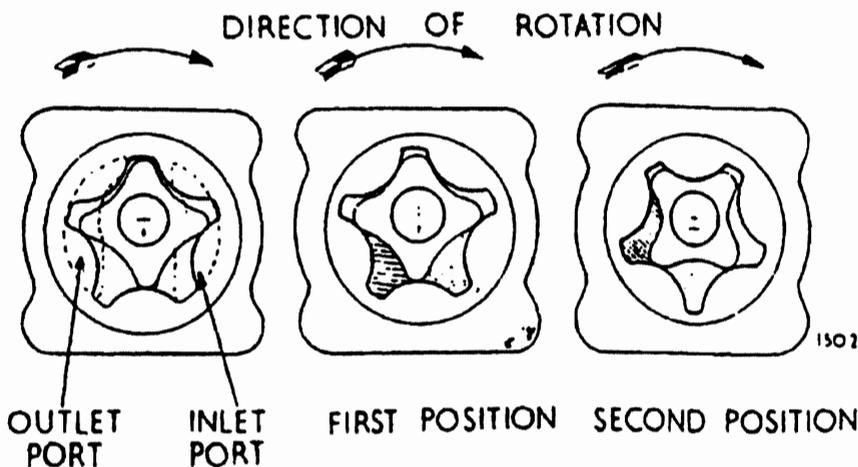
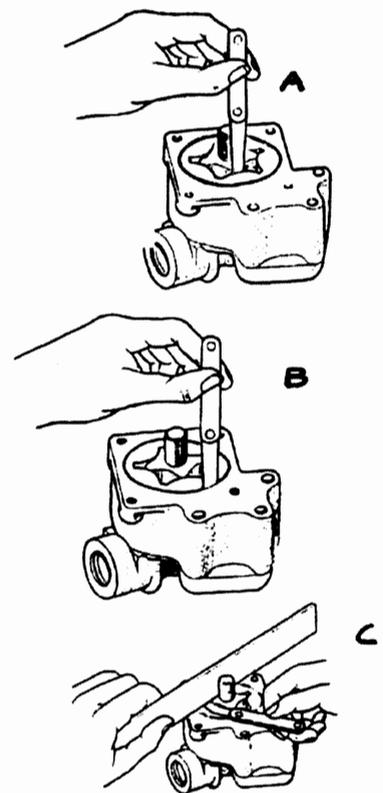

Figure 1: An eccentric rotor type oil pump has one lobe less than the number of internal segments in the outer rotor.
Figure 2: Typical clearances in an eccentric rotor type oil pump similar to those used in an Austin-Healey.
**Eccentric rotor pumps:** The inner rotor has one lobe less than the number of internal segments in the outer rotor as shown in Figure 1. Measure the clearances as shown in Figure 2. Inner rotor to outer rotor maximum is 0.006". Clearance when new is 0.002". Outer rotor to pump body is 0.010" maximum; 0.003" new. End float of the rotors is 0.0025" maximum to 0.0015" new.